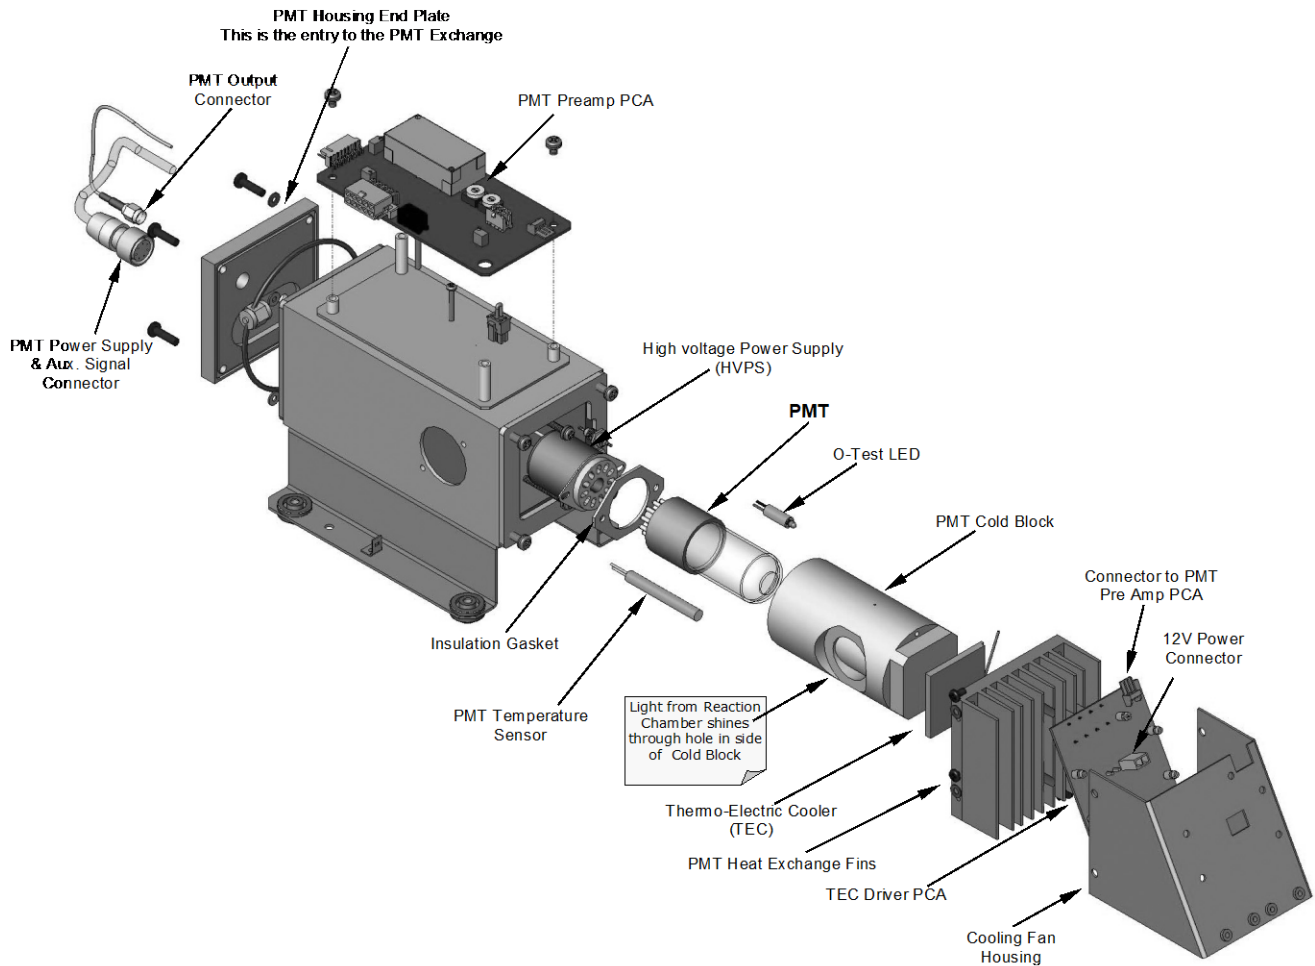

Figure 11-16: PMT Assembly - Exploded View
6. Locate the Preamp PCA (refer to Figure 11-16).